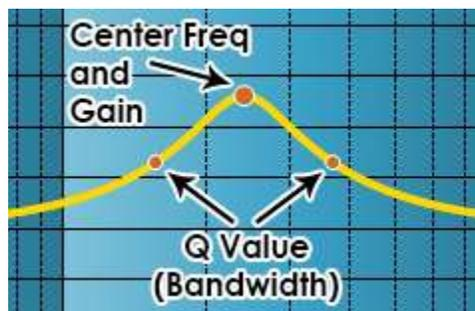

Figure 3-7 - Drag markers on single filter
When a filter is selected, drag markers (see **Figure 3-7**) appear for that filter to allow configuration of center frequency, gain, and bandwidth (Q).